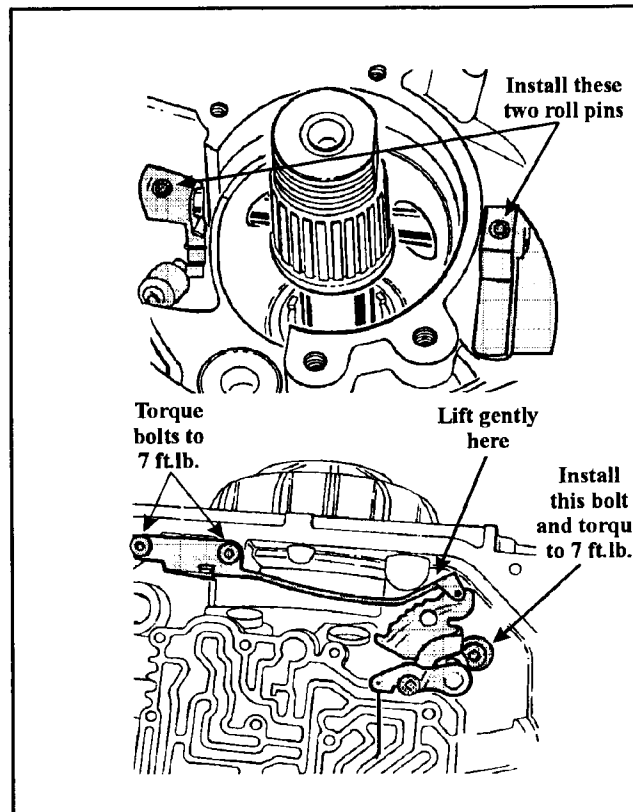

Figure 111
6. Install the parking pawl return spring on the parking pawl then install the washer and lock in the retaining "C" clip on the parking pawl shaft (See Figure 111).
7. Coat the manual selector shaft with a small amount of grease and install a new linkage seal in the case (See Figure 111).